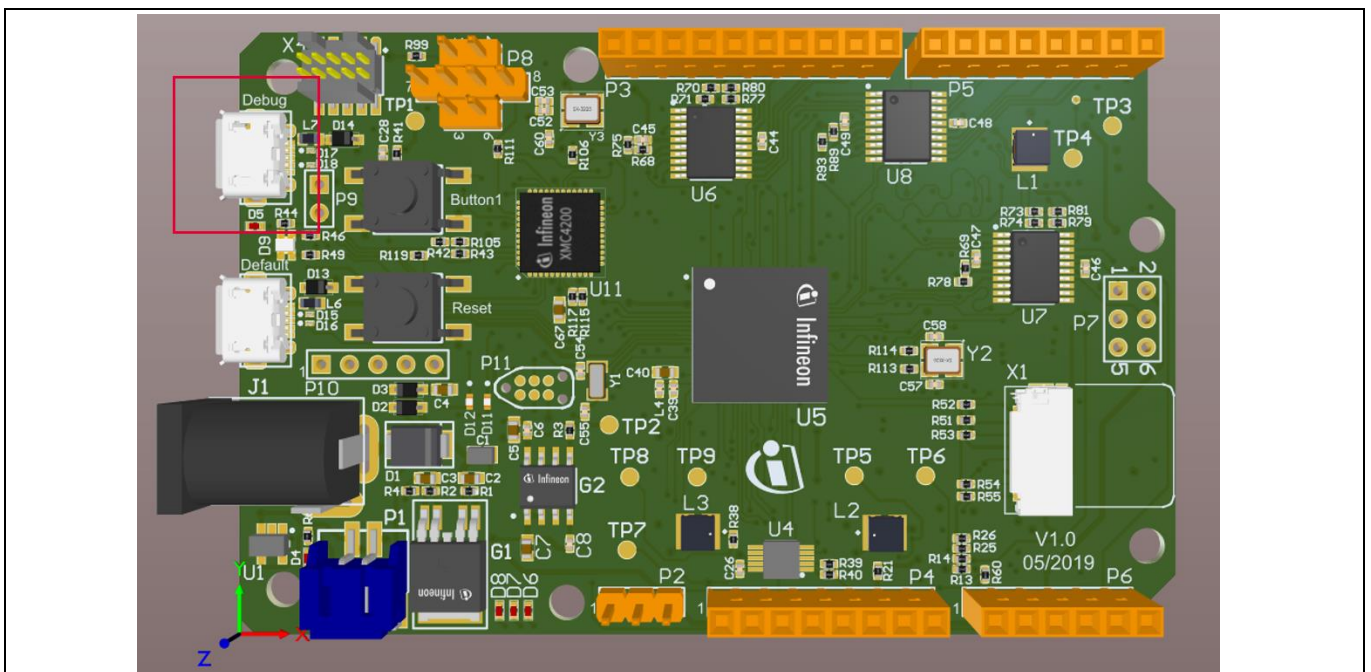

Figure 21 Connect USB cable to debug port
- 5. Connect the radar baseboard XMC4700 to the PC via a USB cable onto the “Debug” USB port (Figure 21).